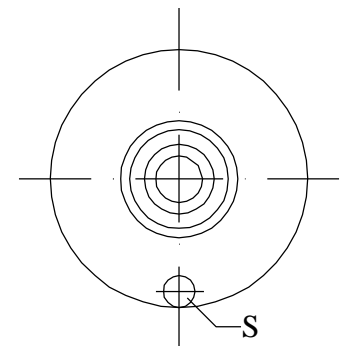

Fig.3
- Allow the wheel to oscillate to find the center of gravity, which is then marked "S" with chalk (Fig.3)